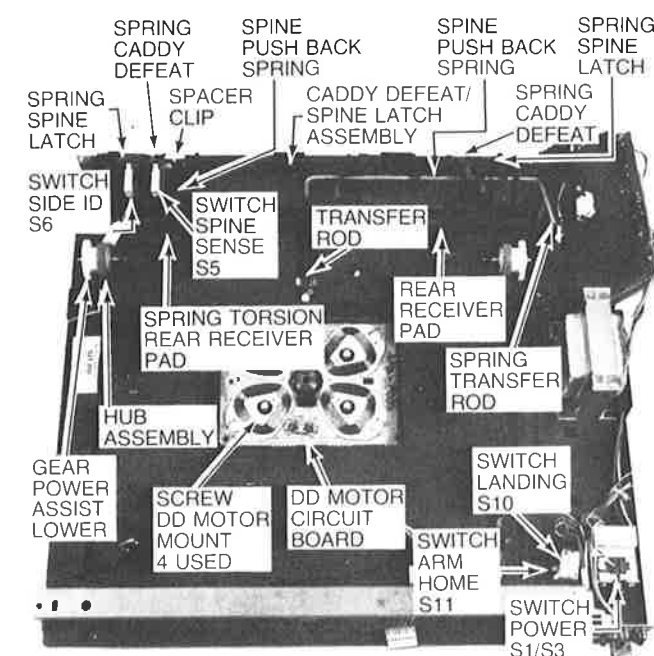

Fig. 19—Miscellaneous Disassembly
1. With guide rail assembly and turntable removed—release tension on rear receiver pad assembly torsion spring (Fig. 19) and remove wires to switch S8 from wire guide stud. Move switch and wire out of the way.
2. Lift rear receiver pad assembly (Fig. 19) straight up and remove from baseplate.
1. With guide rail assembly removed—release caddy defeat springs (Fig. 19) from baseplate studs.
2. Remove spacer clip (Fig. 19) from caddy defeat and spine latch assembly.
3. Slide caddy defeat and spine latch assembly (Fig. 19) to right—raise left side of assembly to clear mounting stud and slide assembly to left to remove.
1. With Guide Rail, Rear Receiver Pad and Caddy Defeat/Spine Latch assemblies removed—release Transfer Rod spring (Fig. 19) from baseplate stud.
2. Rotate Transfer Rod (Fig. 19) upward to clear center portion of baseplate.